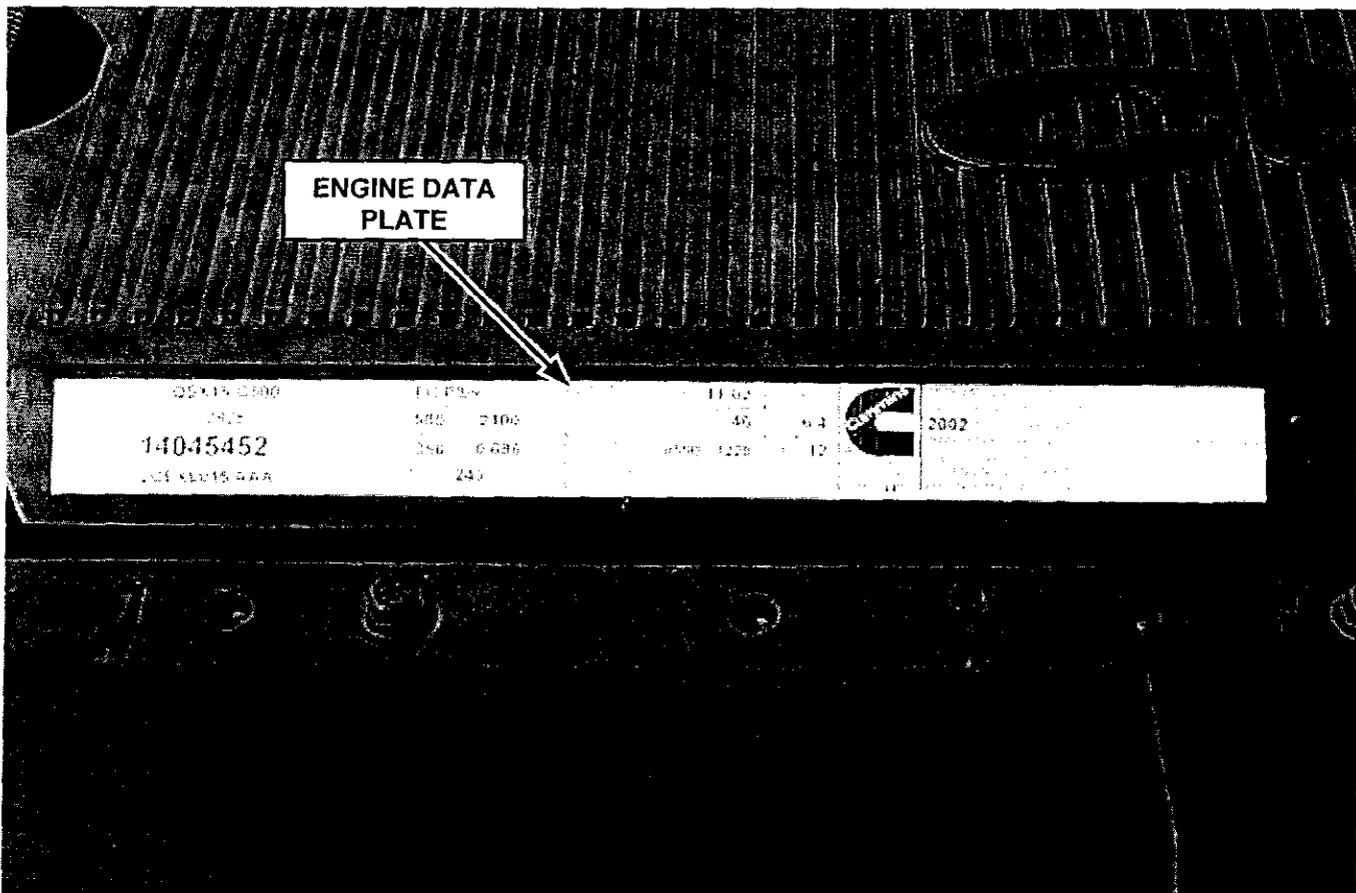

FIGURE 2
The engine data plate shows specific information about your engine: (1) the engine serial number (ESN), (2) control parts list (CPL), (3) model, (4) horsepower and rpm rating provide information for ordering parts and service needs (figure 2).